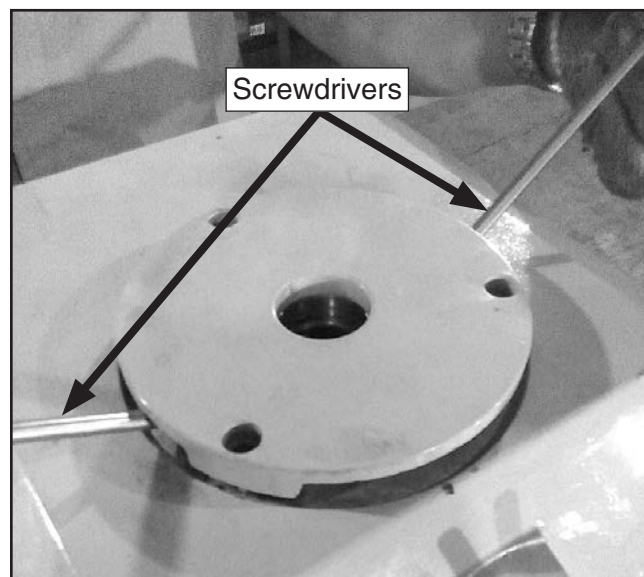

Figure 99. Using two flat head screwdrivers to remove spindle bearing cover.
6. Pry off spindle bearing cover (see **Figure 99**).